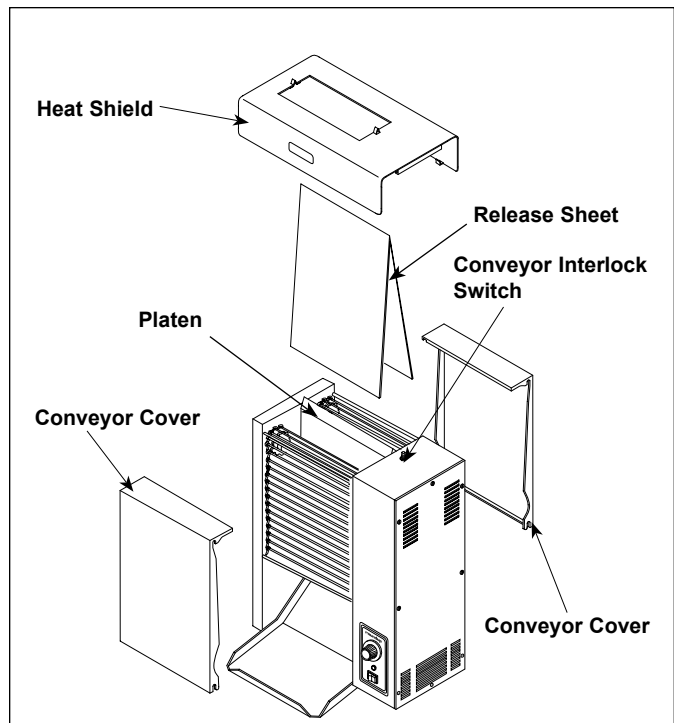

Figure 4. Installing Release Sheet
- Plastic bag containing the release sheet (Figure 4)
6. Install the Release Sheet by draping it over both sides of the Platen surface. The crease should be centered directly on top of the Platen (Figure 4).
7. Re-install the front and rear Conveyor Covers (Figure 4).
8. Install the Heat Shield so that the clips fit over the top of the Platen and retains the Release Sheet in place (Figure 4).
**IMPORTANT:** Make sure Heat Shield is activating the conveyor interlock switch (see Figure 4). The conveyors will not rotate unless the heat shield is in place and interlock switch is activated (depressed).
A Conveyor Interlock Safety Switch is located on top of the unit under the Heat Shield (Figure 4). The conveyors will not rotate unless the Heat Shield is properly in place and activating the Conveyor Interlock Safety Switch.
5. Remove the front and rear Conveyor Covers (Figure 4). Wipe the exterior of Conveyor Belt chains with a clean, sanitized towel.
6. Install front and rear Conveyor Covers (Figure 4) and turn the unit on. Count to 10, then turn toaster off. Remove the front and rear Conveyor Covers again and wipe newly exposed section of the Conveyor Belt chains. Re-install the front and rear Conveyor Covers.
2. Remove the Heat Shield, front and rear Conveyor Covers, and Release Sheet (Figure 4).